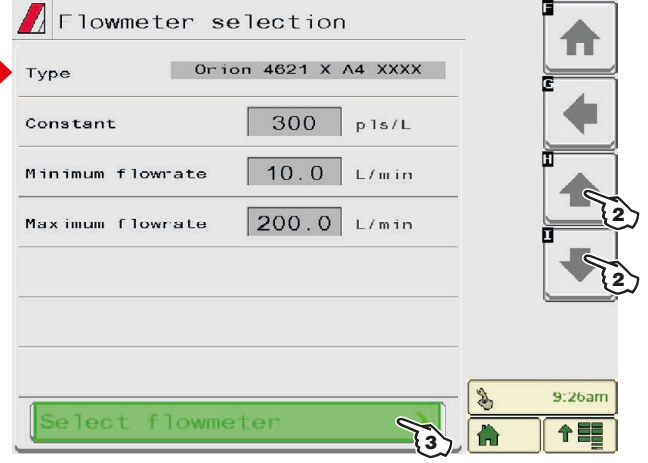

Fig. 39
- 1 Set the installed flowmeter by selecting it from the list in Fig. 39 (use keys 2 to scroll items, and key 3 to confirm).